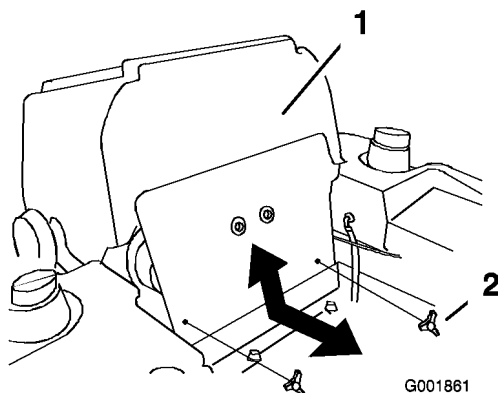

Figure 40
3. Tilt the seat forward and remove the front engine panel (Figure 40).